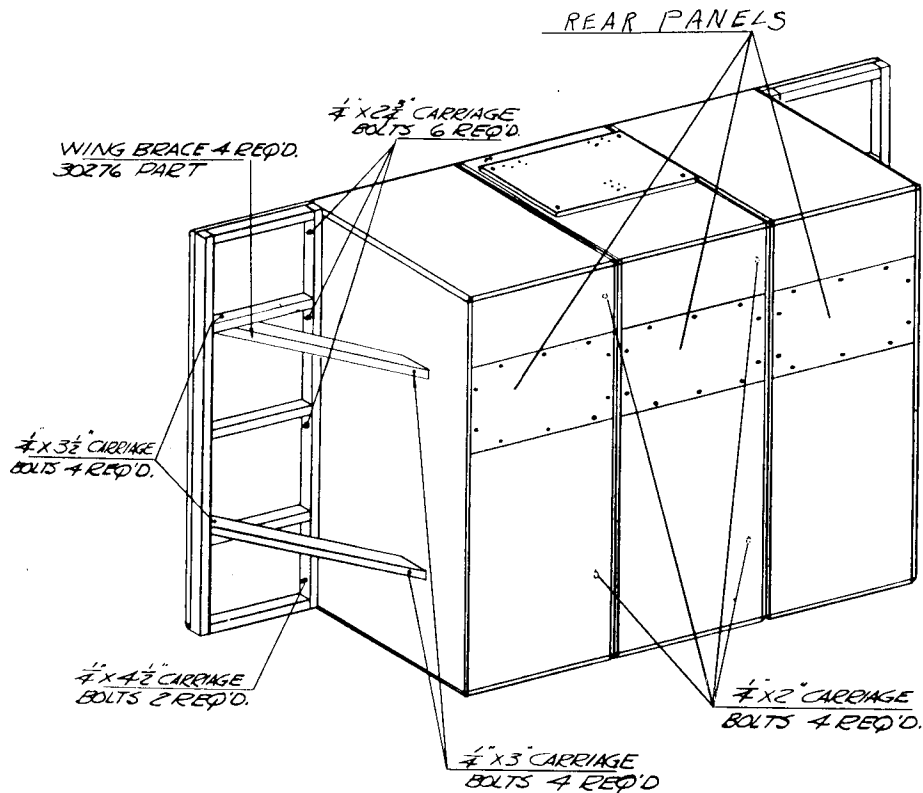

Figure 2. Rear View of A1-X or A1 System
6. Secure each cabinet together at the rear as shown in Figures 2, 4, and 6 using 1/4" x 2" carriage bolts. The rear panel was removed in step 4 to provide access for securing these bolts.
7. Secure wings to cabinet using six 1/4" x 2-3/4" carriage bolts and two 1/4" x 4-1/2" carriage bolts as shown in Figures 2, 4, and 6. Insert carriage bolts from inside the cabinet(s) through pre-drilled holes shown in Figures 2, 4, and 6.